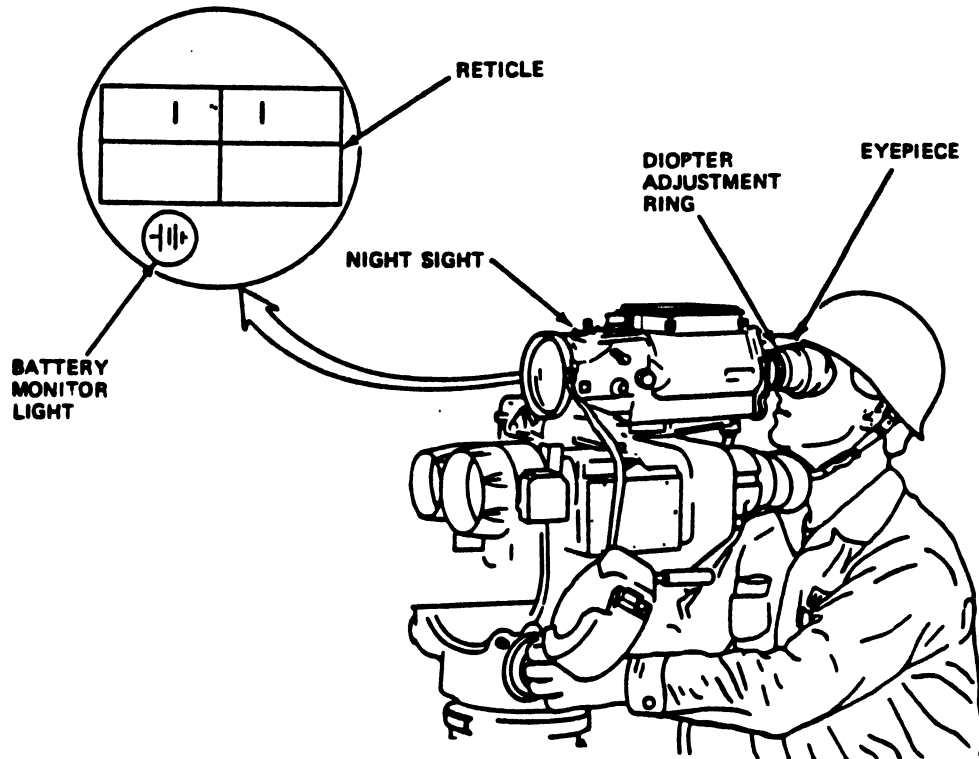

Fig 4-31. Viewing night sight reticle and checking battery monitor light.
Step 6. Look through the eyepiece of the night sight, turn the **DIOPTER ADJUSTMENT RING** to **focus** the reticle, and check to see that the battery monitor light is off (fig 4-31).